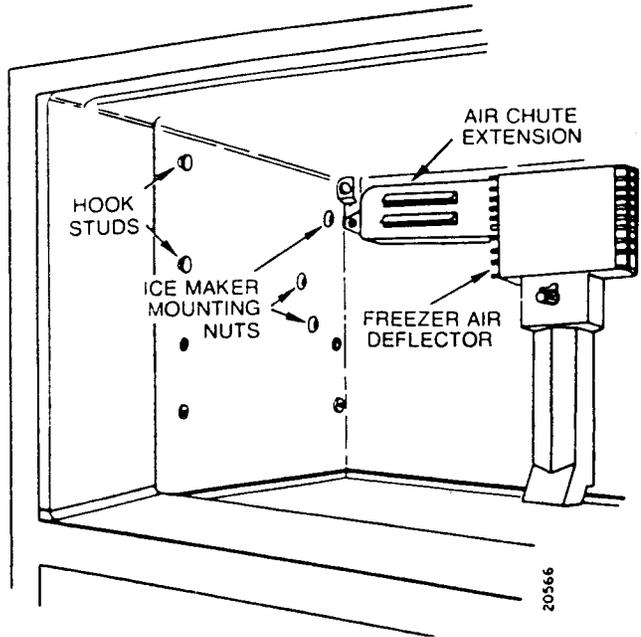

Figure 4. Air chute extension properly installed
7. Position the air chute extension against the left side of the freezer air deflector, making sure the hooks on the right end of the extension fit behind the front of the deflector (see figure 4). Secure the left end of the extension with the screw 'Z' removed in step B4.